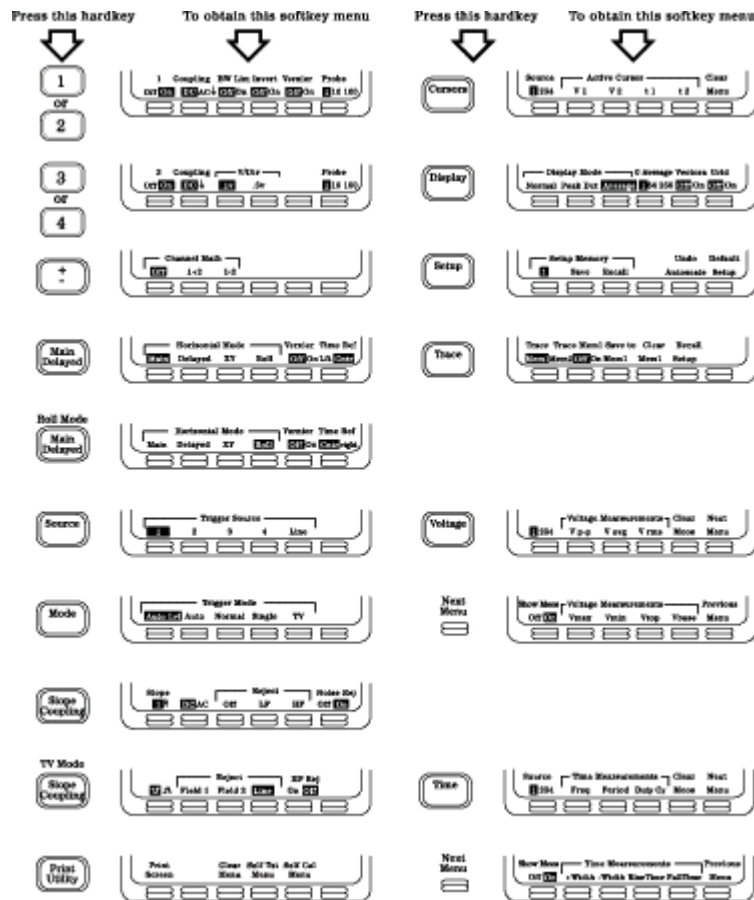

Figure 2 Hardkeys and Their Associated Softkeys
SOFTKEY denotes one of six (6) buttons just under the CRT the function of each button depends on which **HARDKEY** you have previously pressed. **See Figure 2.**